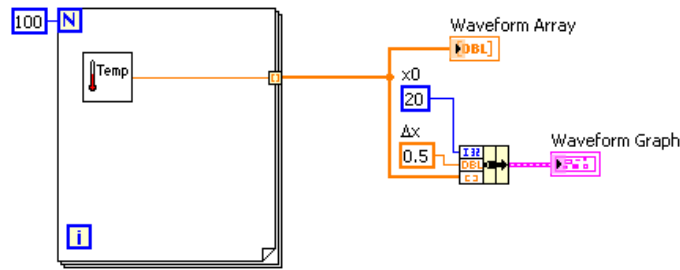

Figure 7.19
1. Modify the block diagram as shown in Figure 7.19.
- (a) Place the Bundle function, located on the Functions»All Functions»Cluster palette, on the block diagram. This function assembles the plot elements into a single cluster. The elements include the initial x value (20), the Δx value (0.5), and the y array of waveform data.
- (d) Wire the block diagram as shown in Figure 7.19.